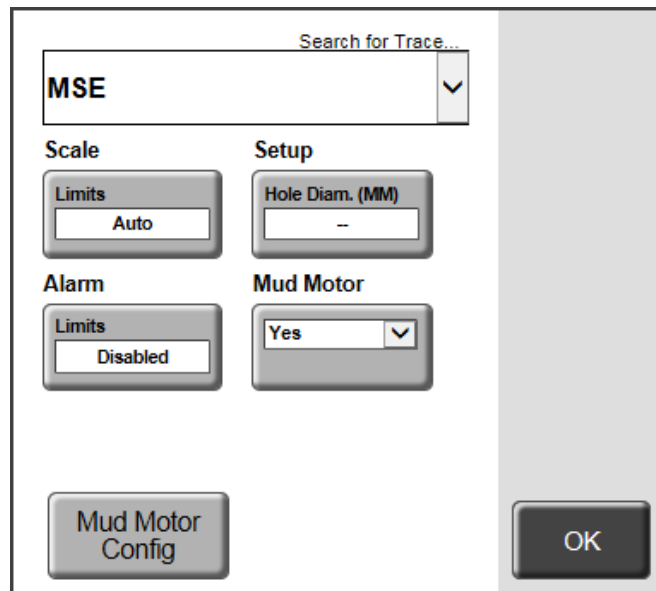

Figure 1: MSE settings window
2. On the main screen, add the MSE trace to your trace order, then select it. The MSE settings window opens (Figure 1).
1. Select the **MSE** current reading box. The MSE settings window opens (Figure 1).